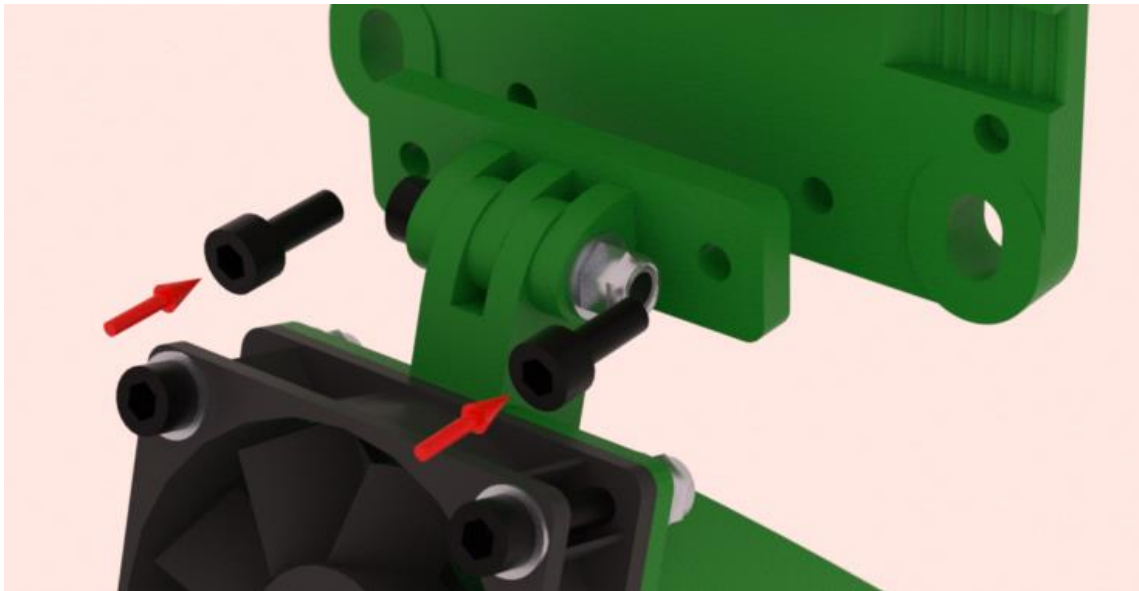

Figure 38: Part Cooling Fan Swivel Mount Assembly
- Attach the fan swivel bracket to the rear print carriage plate with two M3x8mm bolts as shown in Figure 38.